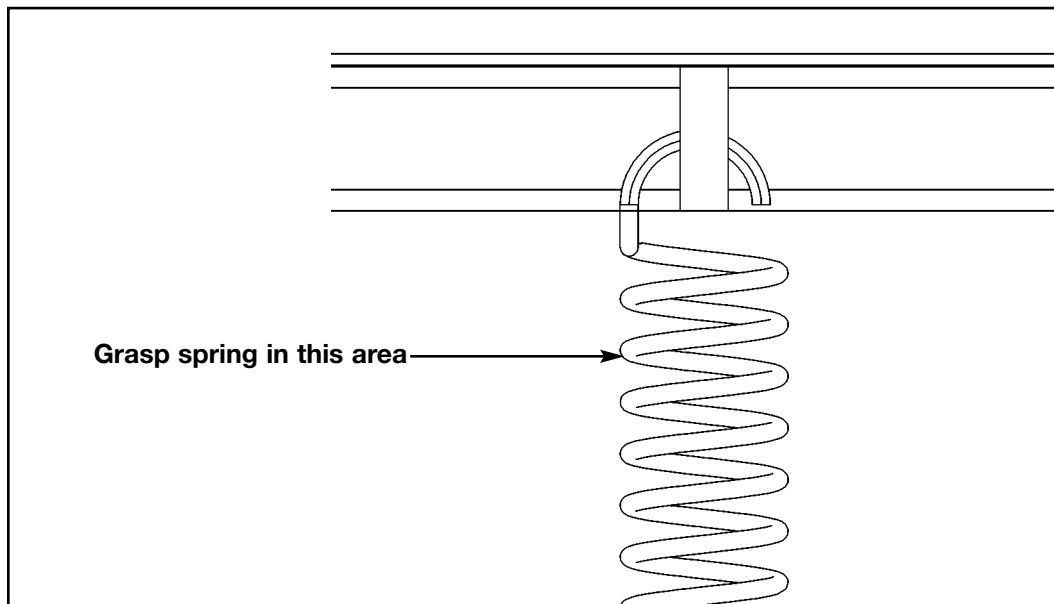

Figure 8
**2. Connect upper end of each spring** (refer to steps 2A - 2E, Figures 8 and 9).
- A.** Firmly grasp upper end of spring. See Figure 8.